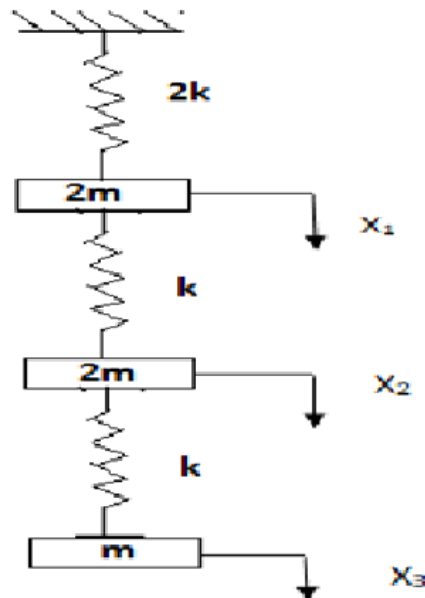

Fig.4
- 6). Using matrix iteration method, determine the natural frequencies of the system shown in Fig.4 (12M)